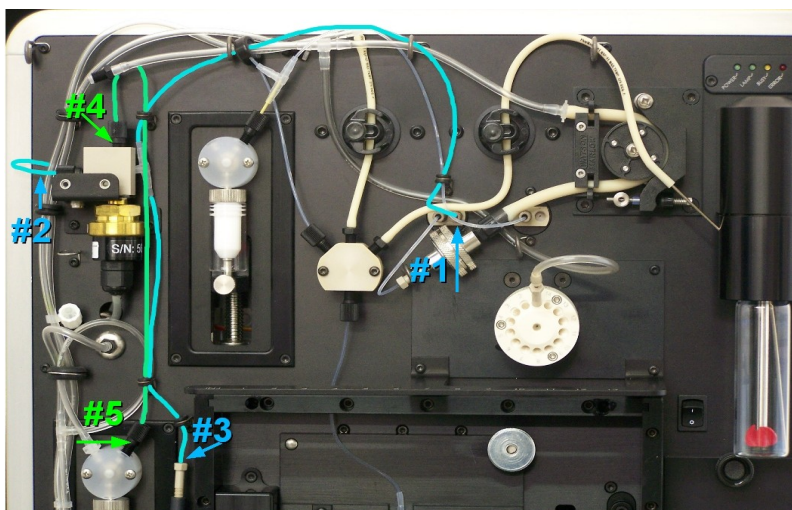
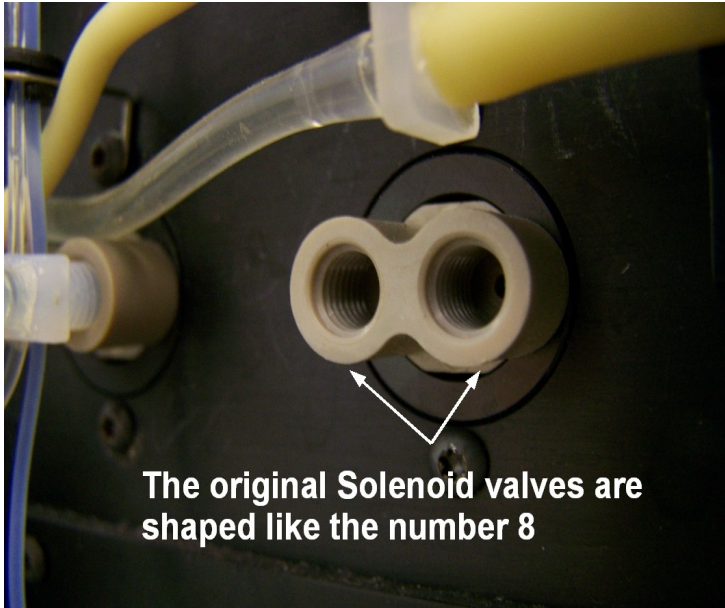

Figure 1: Aspiration Connection routing diagram.
Figure 2: Close up of original Solenoid Valve.
- Run the longer line (from the arm of the *T Hose Barb*) up through the small grommet next to the *Injection Pump*. Continue to route the tubing through the *Tubing Support* above the *Injection Pump*, into the *Injection T Coil*, through the next *Tubing Support*, and down to the grommet above the left *Solenoid Valve*. Cross over the *Injection T Line* before attaching to the **right** side of the left *Solenoid Valve* using a *1/16" White Ferrule* with a *1/4"-28 Black Nut* **OR** a *1/4"-28 Headless Brown Nut* (**Figure 1, #1**). Refer to **Figures 2** and **3** to see a close up of this connection and to determine the appropriate nut for your *Solenoid Valve*.
- Orient the *T Hose Barb* so that it is sitting flush with the front panel and the base is pointing toward the *Pressure Transducer*. Run the tubing from the **base** of the *T Hose Barb* behind the *Pressure Transducer* and the *Buffer/Waste Lines* then loop the tubing back around and into the side of the *Pressure Transducer* using an *M6 Black Nut* and a *1/16" White Ferrule* (**Figure 1, #2**).
- Route the shorter tubing down through the [2] grommets next to the *Aspiration Pump* and into the top of the *Union* using a *1/16" Tan Ferrule* and a *10-32 Tan Nut* (**Figure 1, #3**). Torque the *10-32 Nut* with the *15 in-oz Torque Wrench* and the *1/4" Deep Socket*.
- Insert the separate line (represented in green) into the top of the *Pressure Transducer* using an *M6 Black Nut* and a *1/16" White Ferrule*. Loop the tubing above and then down through the grommet next to the *Injection Pump*, down through the grommet above the *Aspiration Pump*, and into the **right** side of the *Aspiration Pump Valve* using an *M6 Black Nut* and a *1/16" White Ferrule* (**Figure 1, #4 and #5**).
Important: Use the *1/4"-28 Black Nut (346001)* for any Instruments that have the **original Solenoid Valves** installed on them (Figure 2).